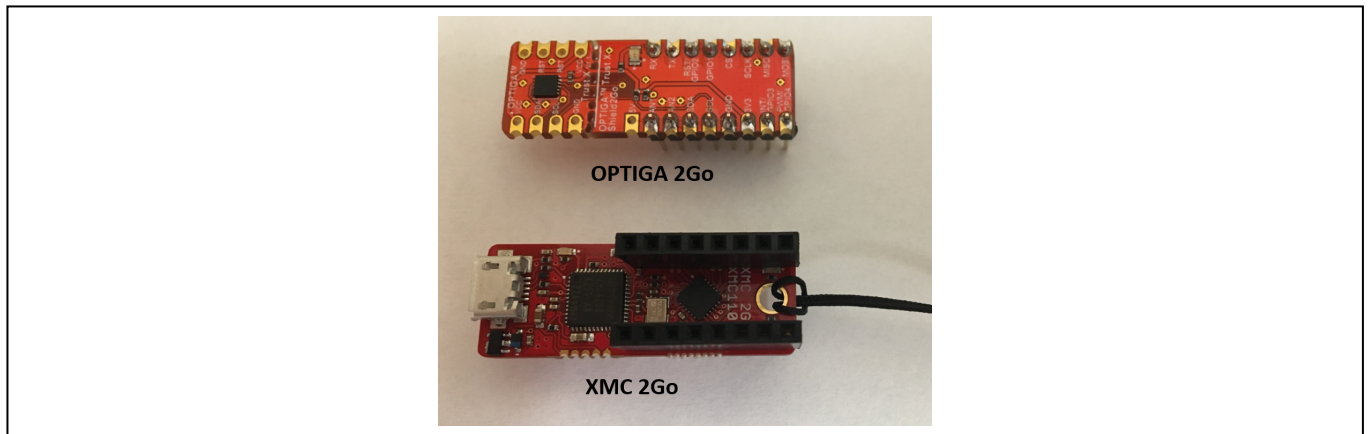
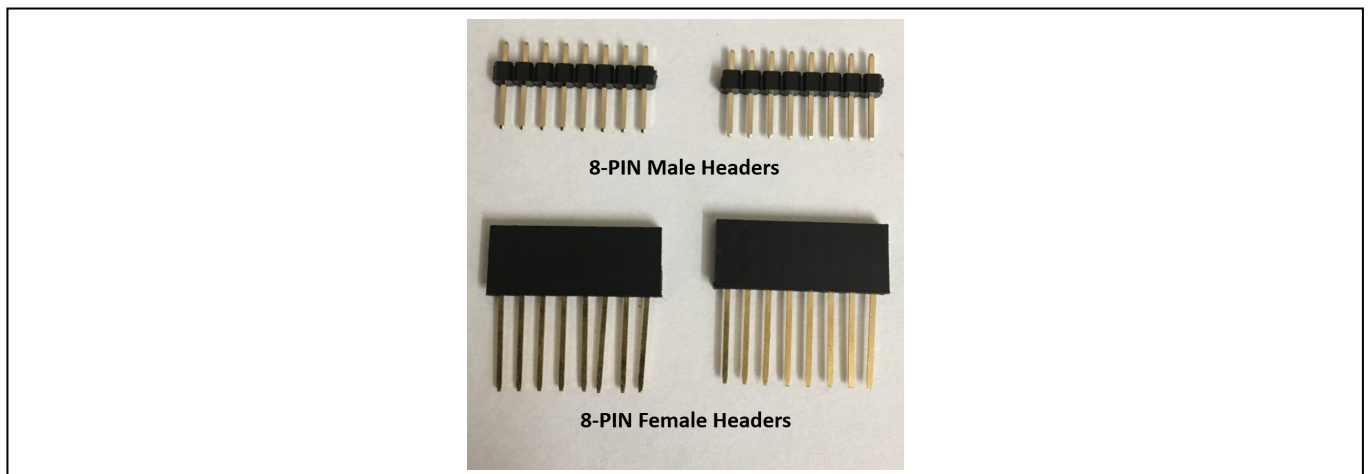

Figure 6 XMC and OPTIGA™ 2Go™ series boards
Figure 7 8-PIN Male and Female Headers
- Hardware Requirements, shown in **Figure 6** and **Figure 7**